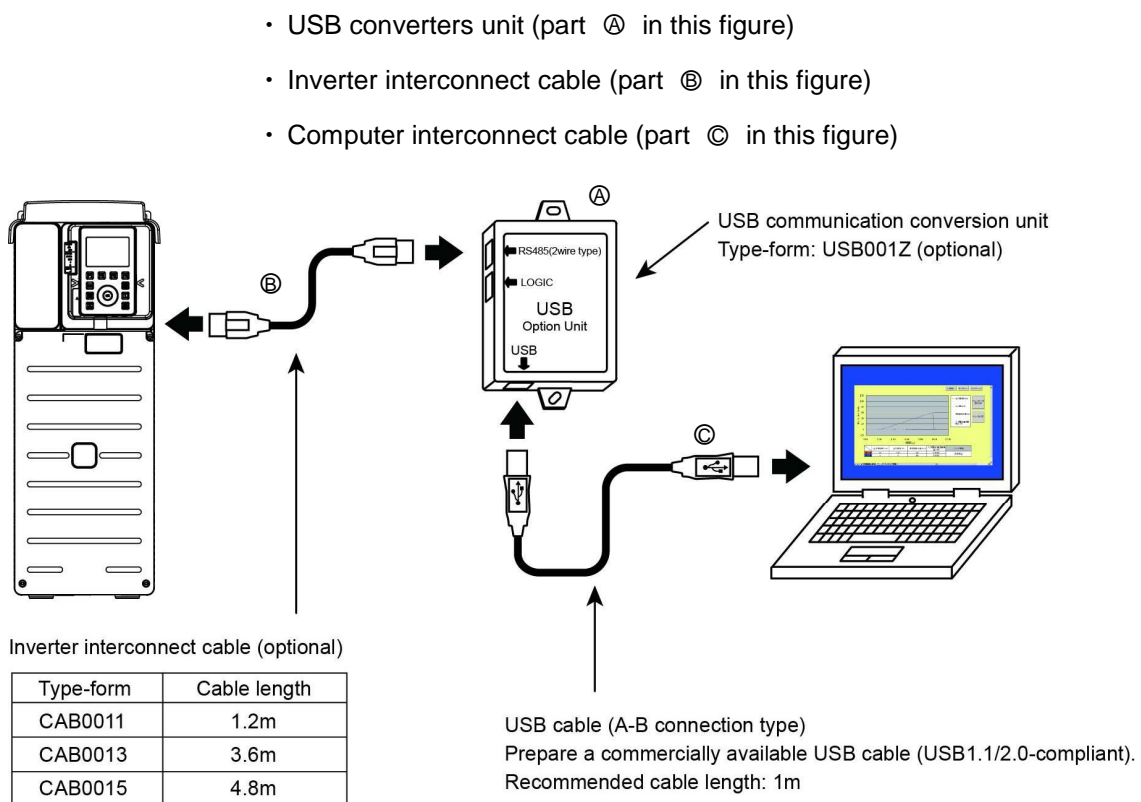

Fig.1 An example of connection of USB converters unit
*2 To use PCT003Z-E, the USB converters unit shown in Fig. 1 below are required.